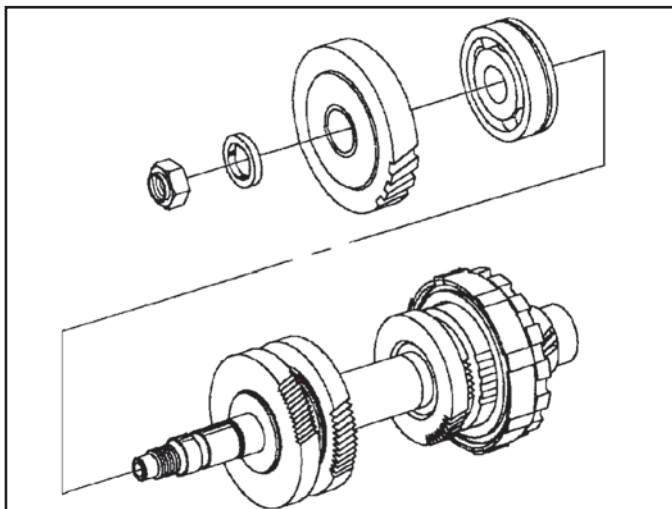

Figure 140
24. Assemble the output shaft case bearing onto the output shaft (See Figure 140).
25. Install the 1st driven gear and sprag clutch assembly onto the output shaft (See Figure 140).
26. Screw the output shaft nut onto the output shaft. With a torque wrench, tighten the output shaft nut to 150 N m (111 ft lbs) (See Figure 140).